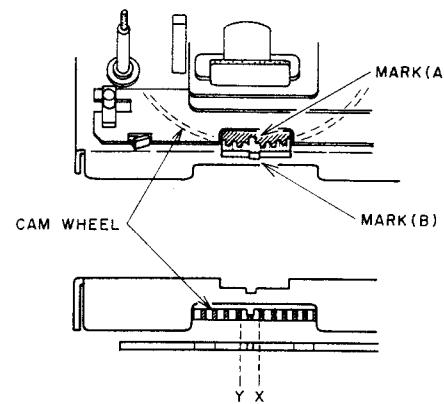

Fig.4-5.
- Adjust VR1 slightly so that the center of Marker (A) coincides with the center of Marker (B) (should be within the range between X and Y) at STOP Mode as shown en Fig. 4-5. (The marker (STOP) on the CAM WHEEL can be seen clearly by lightinhg it from the back.)